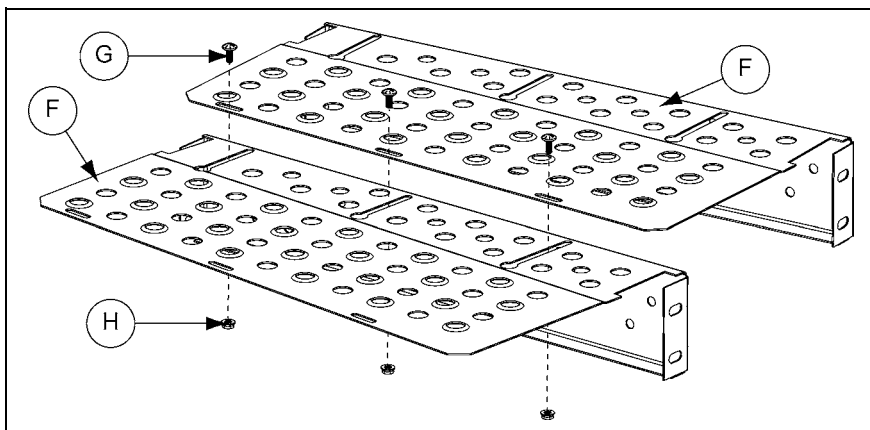

Figure 4D
3. Attach the planks (F) together using truss head bolt (G) and nut (H). Do not tighten yet to allow for adjustment. (See Figure 4D.)